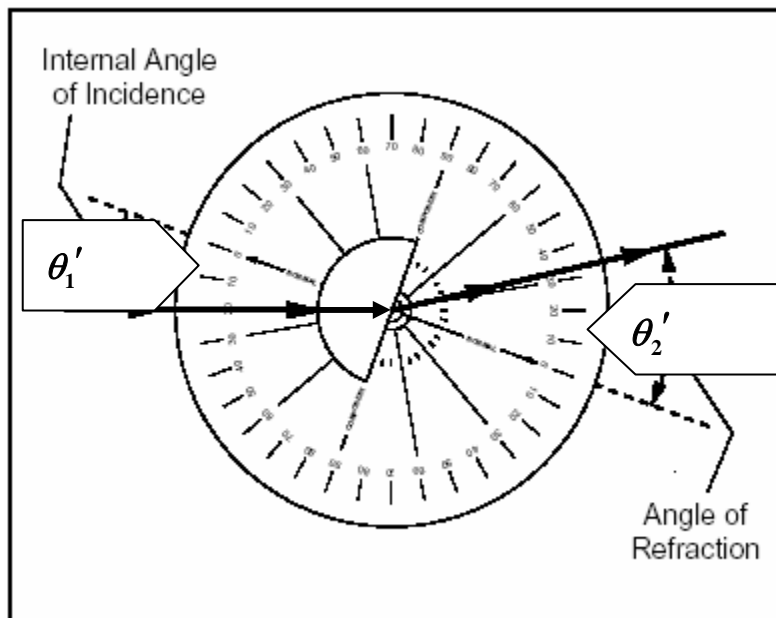

Figure 2 Experimental set up for testing reversibility.
2. Now let the incident ray strike the curved surface of the lens as in Figure 2. Just rotate the Ray Table 180° . The incident ray now reaches the flat surface of the lens after traveling through acrylic, and then it is refracted into air at the flat boundary. The internal angle of incidence, θ_1' , for the flat surface of the Cylindrical Lens is shown in Figure 2. Set this angle of incidence to the values you have already listed in the table under the